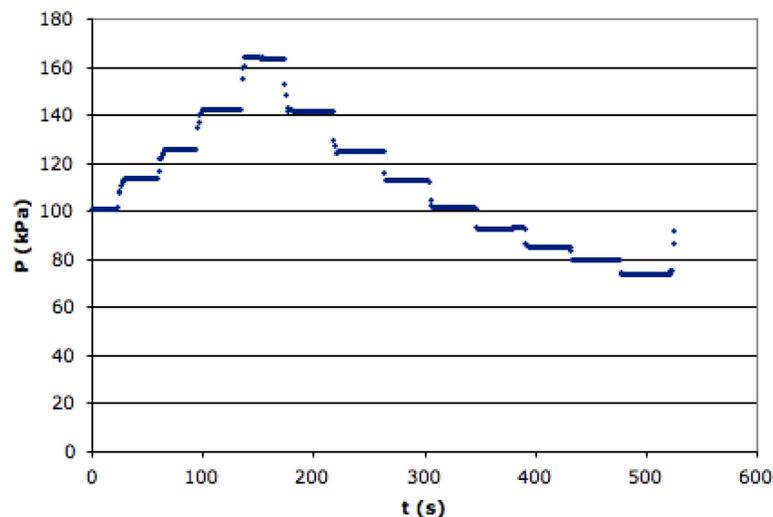

Figure 2. Sample plot showing pressure as a function of time during Part A of the experiment.
- (4) Go back to the “**Templates**” folder and now open the LoggerPro template named “**Boyle's Law**”. You will use this program to automatically collect pressure data as you change the volume. In the "Experiment" drop down menu, click on "Calibrate" and choose "Gas Pressure Sensor". Go to the wall of the lab room with the windows in it, locate the barometer and read the atmospheric pressure in kPa (these units are kilo-Pascal or 10^3 Pa). Click on "Calibrate Now" and type the pressure reading from the barometer into the designated place in the open window. Click on "Keep" and then “Done” to finish the calibration.
- (5) Push the plunger so that the top of the seal, which is a readily identifiable on the plunger, is at the volume $V' = 12$ cc mark on the barrel. Then screw the syringe onto the sensor.
- (6) With the plunger at the $V' = 12$ cc mark on the barrel, start collecting data by clicking on the **Collect** button. Wait about 20 s. Then push the plunger in until the top of the seal is at volume $V' = 11$ cc **and hold it there**. Wait about 20 s. Do not let go of the plunger until you are finished taking data. Then continue this sequence until the top of the seal, or your chosen marker, is at the 8 cc mark. After reaching the 8 cc mark, start pulling the plunger out in similar sized steps with pauses of 20 s until the 16 cc mark is reached and finish there by collecting data for 20 s.
- (7) Select all the data, copy it, and then paste it into your spreadsheet in the designated area. The template will do its best to determine the flat sections of your data, but you may have to use some judgment.
- (8) Use EXCEL to plot the pressure versus time. Your data should look like something like Figure 2. Be sure to add a chart title, axes titles and units.
- (9) Examine the scale on the plunger barrel and estimate how precisely you can read the location of the top of the seal, or your chosen marker. Estimate the uncertainty $\Delta V'$ in your volume readings and record in the designated column in your spreadsheet. It will be the same for every cell in the column.